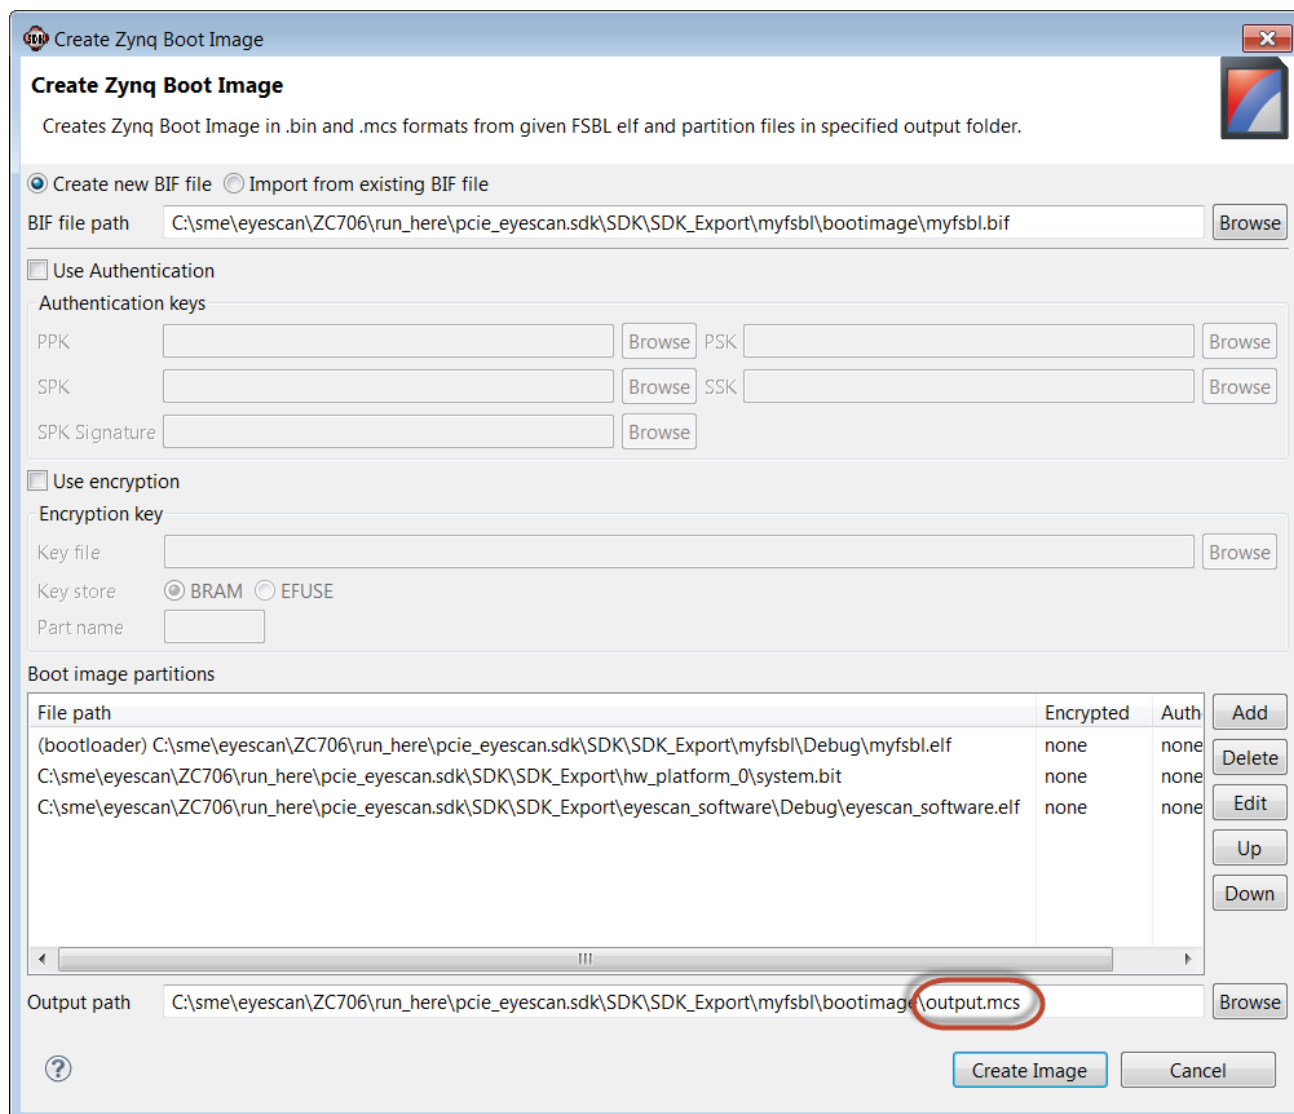

Figure 26: Specify Boot Image File Name
19. Change the output extension to .mcs as shown in Figure 26 and select **Create Image**.